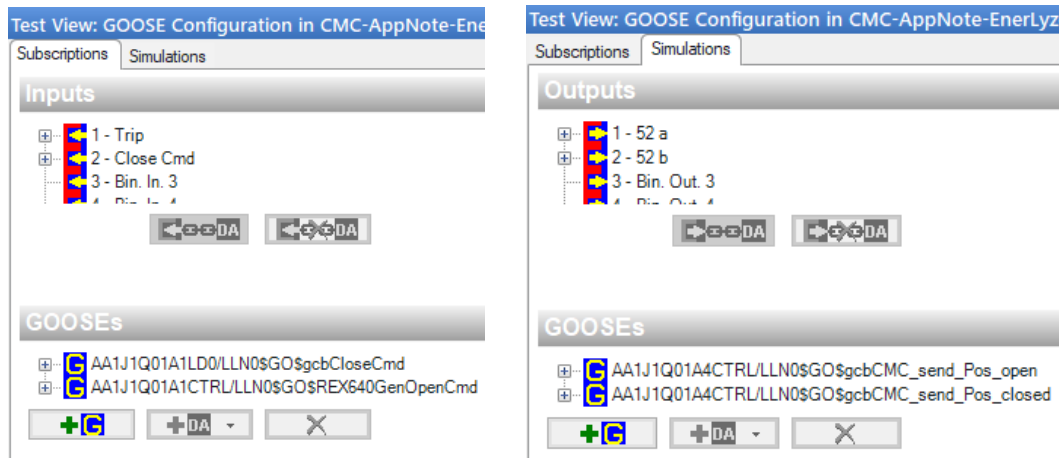

Figure 17: GOOSE configuration of "test" CMC; left: *Subscriptions*, right: *Simulations*.
3. Insert the Test Universe module *GOOSE Configuration* to the test document and set it up, as exemplarily shown in Figure 17: